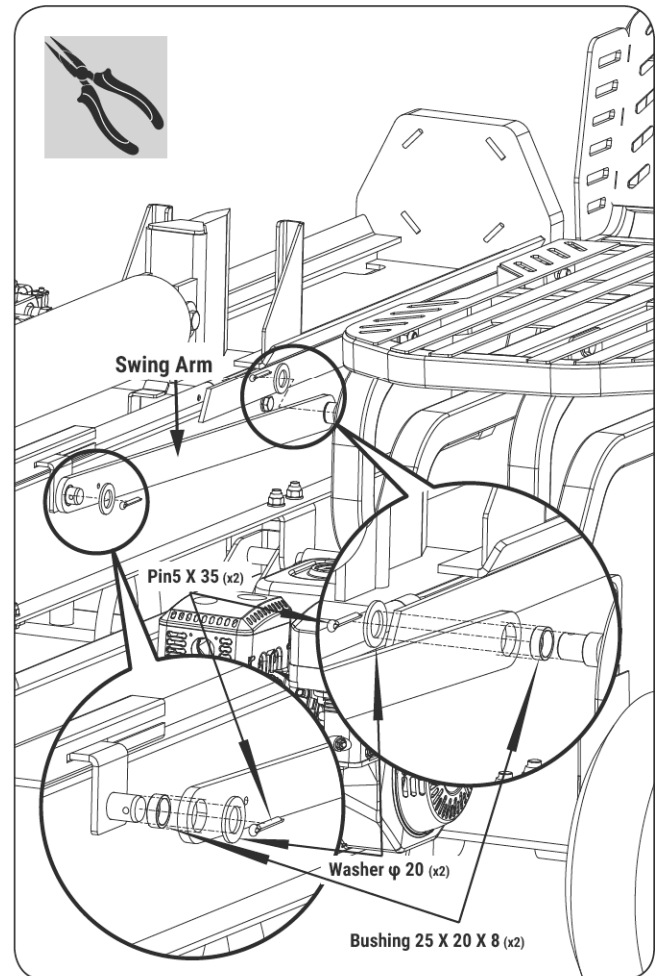

Figure 11
1. The front hole of the swing arm is fixed to the short shaft on the side of the left leg with bushing, washer and cotter pin. and the rear hole of the swing arm is fixed on the short shaft on the inside of the bending plate. The inner side is fixed with a bushing, a washer and a cotter pin. (See **Figure 11**.)